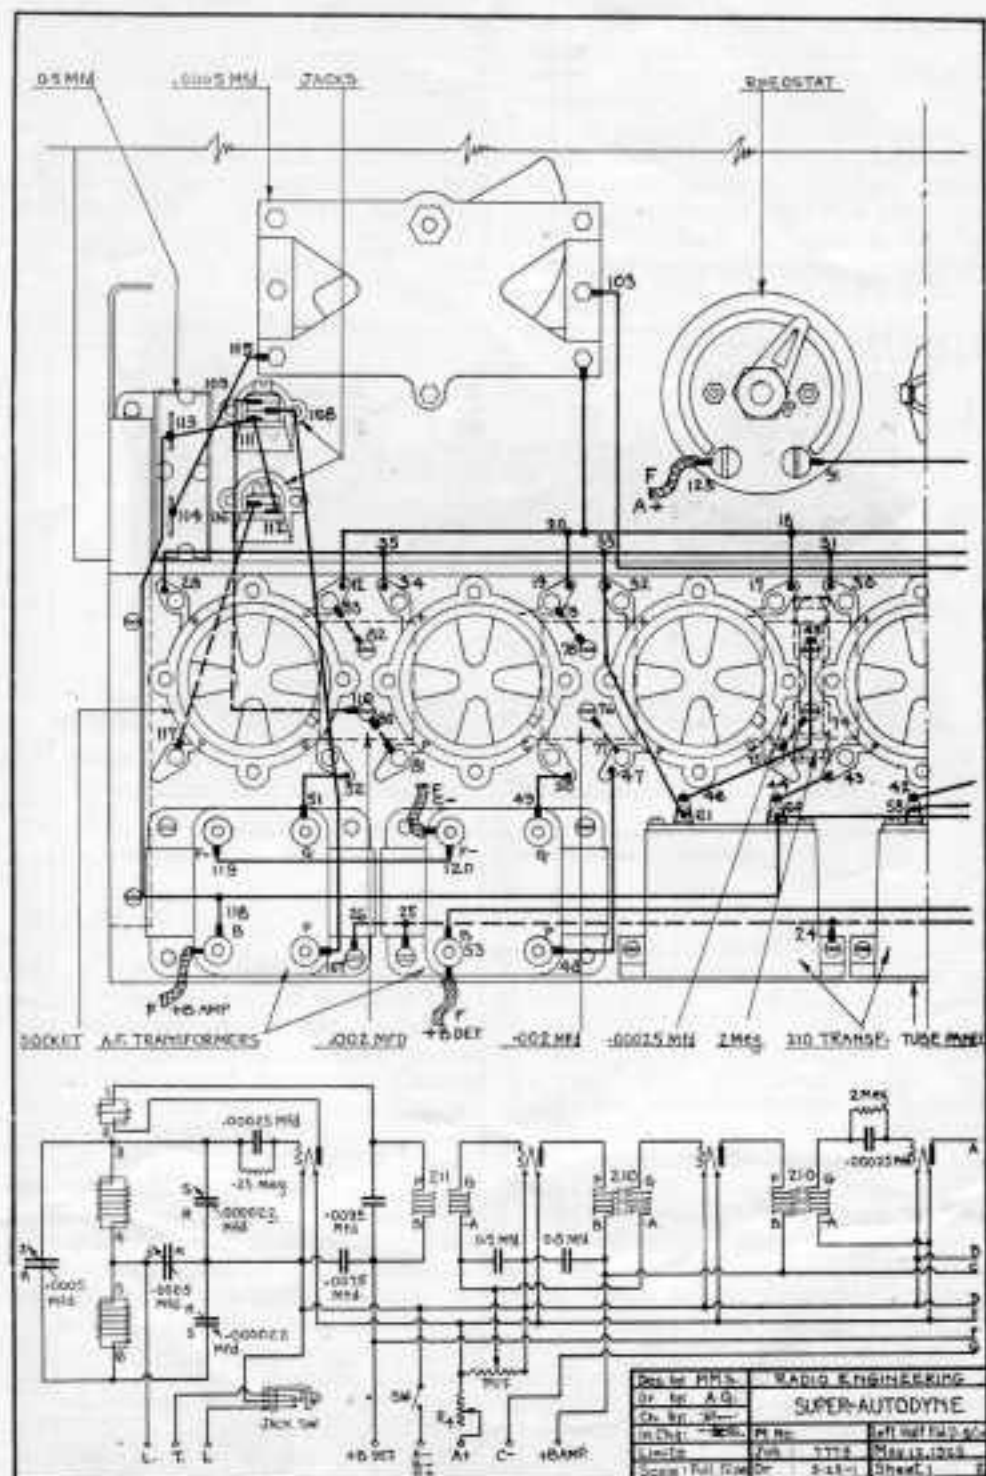

Fig. 3. Left hand half of the picture wiring diagram, looking at the set from the rear, with the tube panel dropped down.
The circuit is shown in Figs. 3 and 4. You will see that the first tube acts as both oscillator and first detector. Following this we have two stages of intermediate frequency amplification, detector and two audio stages.
**Assembly and Wiring** Figs. 3 and 4 give the picture and wiring diagram in which the various parts and connections have been drawn exactly as they were arranged in the original receiver. The tube panel is shown tipped down, and all wires under the tube panel represented by dotted lines. The various connections are indicated by numbers, etc. Take your time and follow each step in the assembly instructions religiously. They have been prepared in the exact sequence to make the work as simple as possible.
Let's tackle the tuning circuit first. In Fig. 3 is a schematic wiring diagram of a tuning circuit. There is nothing unusual about it as far as the method of connections is concerned but if you will look at Fig. 4, illustrating the way in which the diagram is applied you will see that there is something very different.